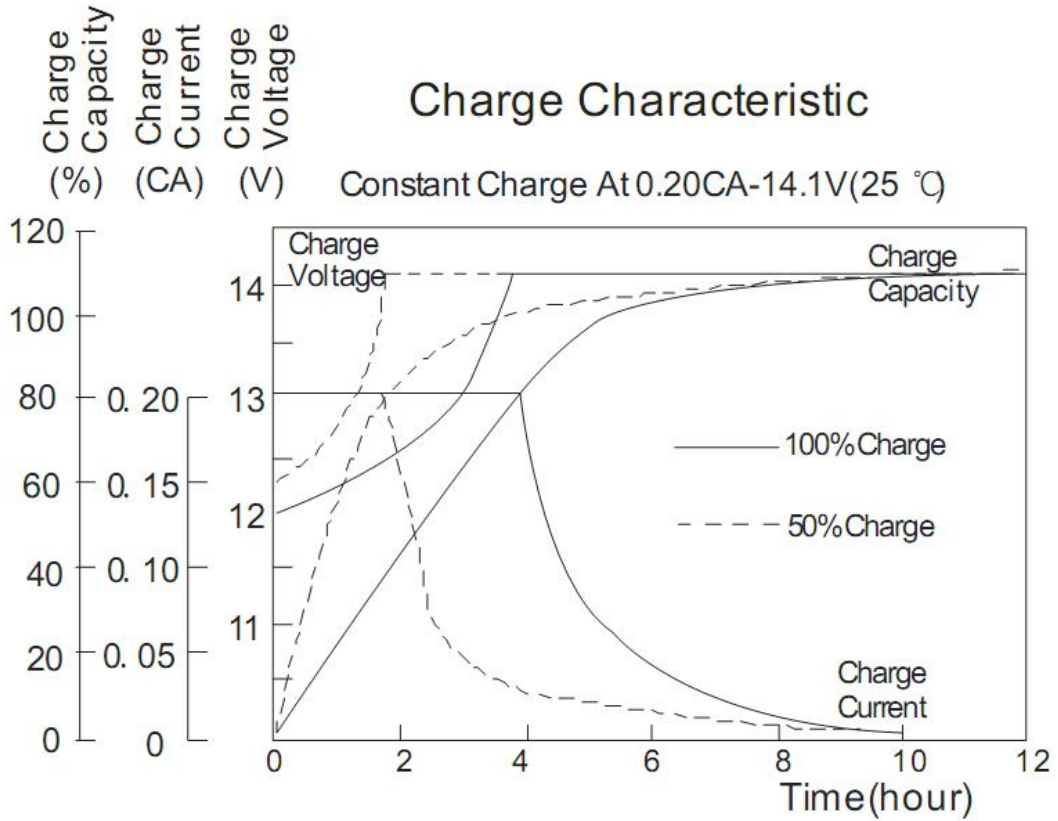

Figure 2.1 Costant Voltage Limited Current Charge Curve
Fig. 2-1 Recharge characteristics curve of with initial 0.1C10A current and limit voltage 2.40V/cell (25).The fully discharged battery can be charged 110% capacity after 24 hours.
Explanation for fig. 2-1: let us make 6-GFM-100 battery as an example. The C10 of 6-GFM-100 is 100Ah, so when discharge with 0.2C10 , i.e. $0.2 \times 100 = 20A$, The discharge voltage and discharge time is shown by 0.2C10 curve.